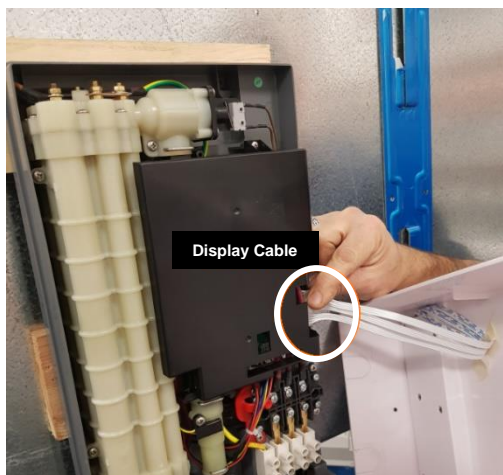

Figure 1: Removing Display Cable
- b) Carefully disconnect the display cable on the side as shown in Figure 1 on page 20.